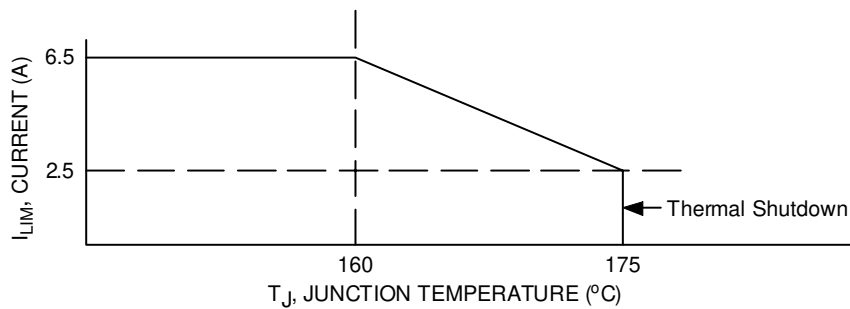
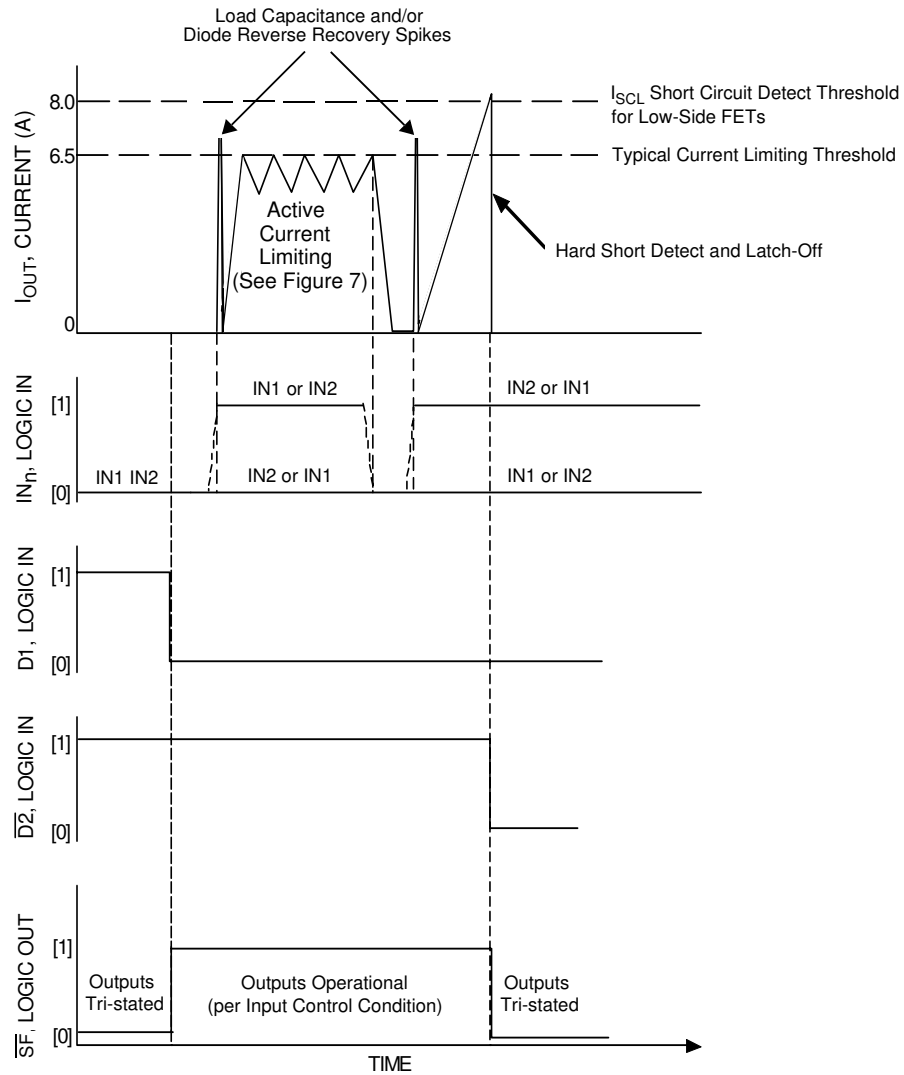

Figure 7. Active Current Limiting Versus Temperature (Typical)
Figure 8. Active Current Limiting Versus Time
27. Increasing currents will become limited at I_{LIM} . Hard shorts will breach the I_{SCH} or I_{SCL} limit, forcing the output into an immediate tri-state latch-OFF. See Figures 8 and 9, page 9. Active current limiting will cause junction temperatures to rise. A junction temperature above 160°C will cause the active current limiting to progressively “fold-back” (or decrease) to 2.5 A typical at 175°C where thermal latch-OFF will occur. See Figure 7, page 8.
The current limiting threshold value is dependent upon the device junction temperature. When $-40^\circ\text{C} < T_J < 160^\circ\text{C}$, I_{LIM} is between 5.2 A and 7.8 A. When T_J exceeds 160°C , the I_{LIM} current decreases linearly down to 2.5 A typical at 175°C . Above 175°C the device overtemperature circuit detects T_{LIM} and overtemperature shutdown occurs (see Figure 7, page 8). This feature allows the device to remain operational for a longer time but at a regressing output performance level at junction temperatures above 160°C .